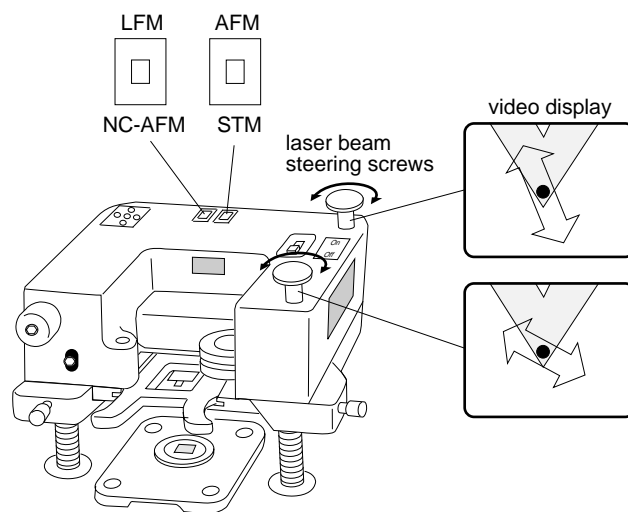

Figure 2-25. Aligning the laser spot on the end of the cantilever.
4. If the laser beam is not reflecting off the back of the cantilever tip, then you need to adjust the position of the laser beam. The controls for adjusting the laser beam position are pictured in Figure 2-25.
To steer the laser spot, adjust the laser beam steering screws. Figure 2-25 shows the direction the laser spot moves when you turn the laser beam steering screws. You may need to turn both screws at the same time. Move the laser until you can see a red reflected spot on the back of the cantilever tip.